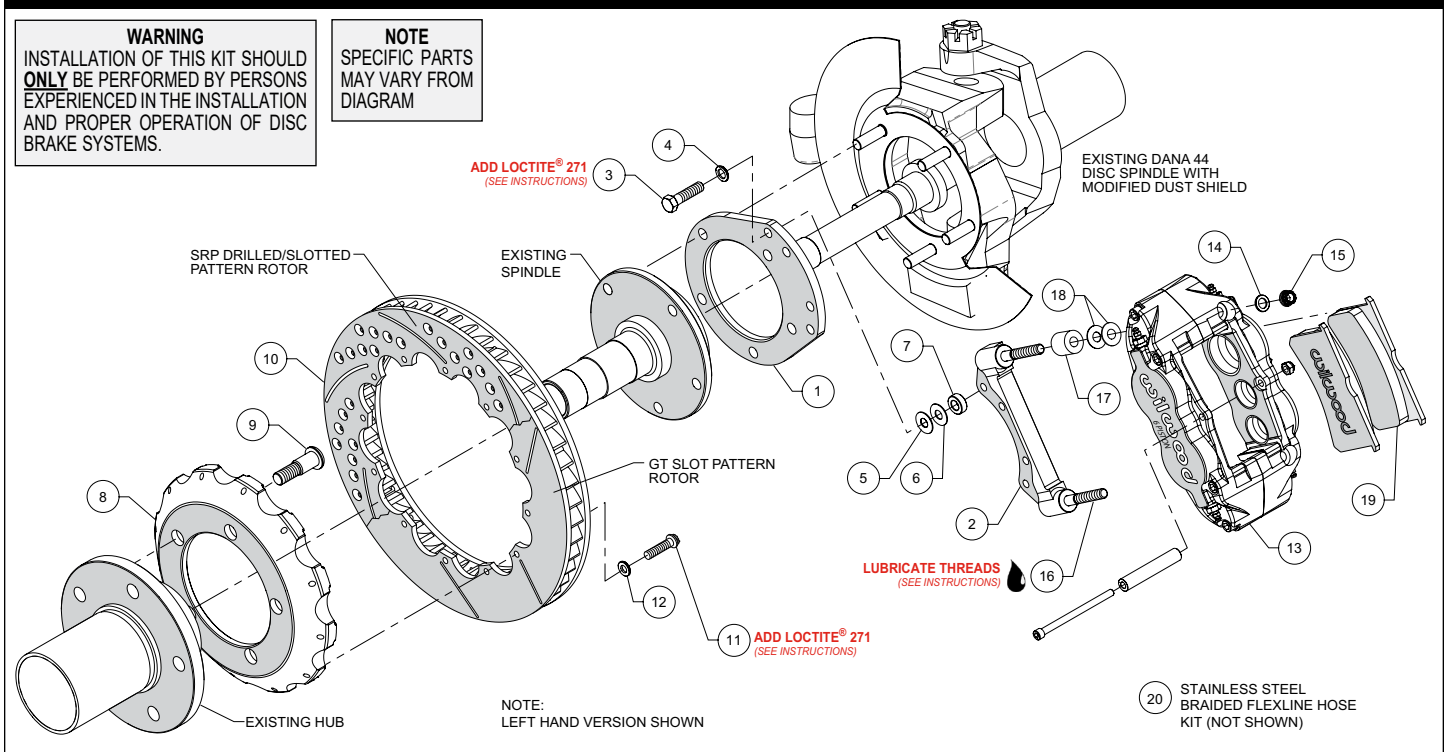

Figure 1. Typical Installation Configuration
NOTE: *Numbers in parenthesis refer to the parts list and Figure 1 on the preceding pages.*
- Orient the flat mount bracket (1) as shown in Figure 1 and Photo 1. Install the OEM spindle over the bracket and secure with OEM nuts, Photo 2. Temporarily tighten the mounting nuts. **NOTE:** *The bracket must fit squarely against the mount bosses on the upright.* Inspect for interference from casting irregularities, machining ridges, burrs, etc. Remove nuts one at a time, apply red *Loctite*® 271 to the bolt threads and torque nuts to OEM specification.
- The caliper mount bracket (2) should initially be installed with clean, dry threads on the mounting bolts. Orient the bracket as shown in Figure 1 and Photo 3, and install using mount bolts (3) and washers (4). Initially place one .035" thick shim (5) and spacer (7) on each bolt between the flat and caliper brackets, Figure 1. Temporarily tighten the mounting bolts. Later, after the caliper alignment has been checked, the mount bolts will be secured using red *Loctite*® 271.
- Orient the hat (8) and the OEM hub as shown in Figure 1 and Photo 4. **NOTE:** *The hat must fit flush against the hub or excessive rotor run out may result.* Install the wheel studs (9) thru
- Orient the rotor (10) and the hat/hub assembly as shown in Figure 1 and Photo 5. Attach rotor to hat using bolts (11) and washers (12). Apply red *Loctite*® 271 to the bolt threads and torque to 155 **in-lb** using a criss-cross pattern. For an added measure of security, the
•**NOTE:** This kit contains distinct right and left hand calipers that must be mounted in a specific direction, as described below. Lubricate the caliper mounting studs (16) with lightweight oil. Initially place two .035" thick shims (18) and spacer (17) on each stud as shown in Figure 1 and Photo 6. Mount the caliper (13) onto the bracket (2) using lock nuts (15) and washers (14), Figure 1. Temporarily tighten the lock nuts. Ensure that the caliper is mounted so the largest pistons are at the rotor exit end of the caliper, in relation to the direction of the rotor. View the rotor through the top opening of the caliper. The rotor should be centered in the caliper, Photo 7. If not, adjust by adding or subtracting shims (5 and/or 6) between the spindle bracket and caliper bracket. Always use the same amount of shims on each of the four mounting bolts. Once the caliper alignment is correct, remove the bracket to bracket mounting bolts (3) one at a time, apply red *Loctite*® 271 to the threads, and torque to 35 ft-lb.